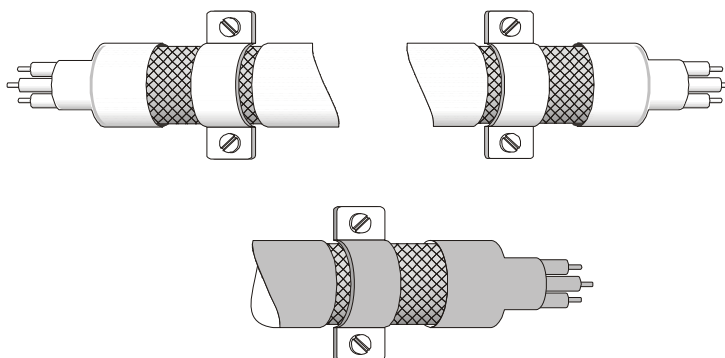

Figure 2
- ☑ The connections between the motor's shielded cable and metal plate must be correct. Use a U-shape metal saddle to fix both ends of the motor cable. See Figure 2 for correct connections.